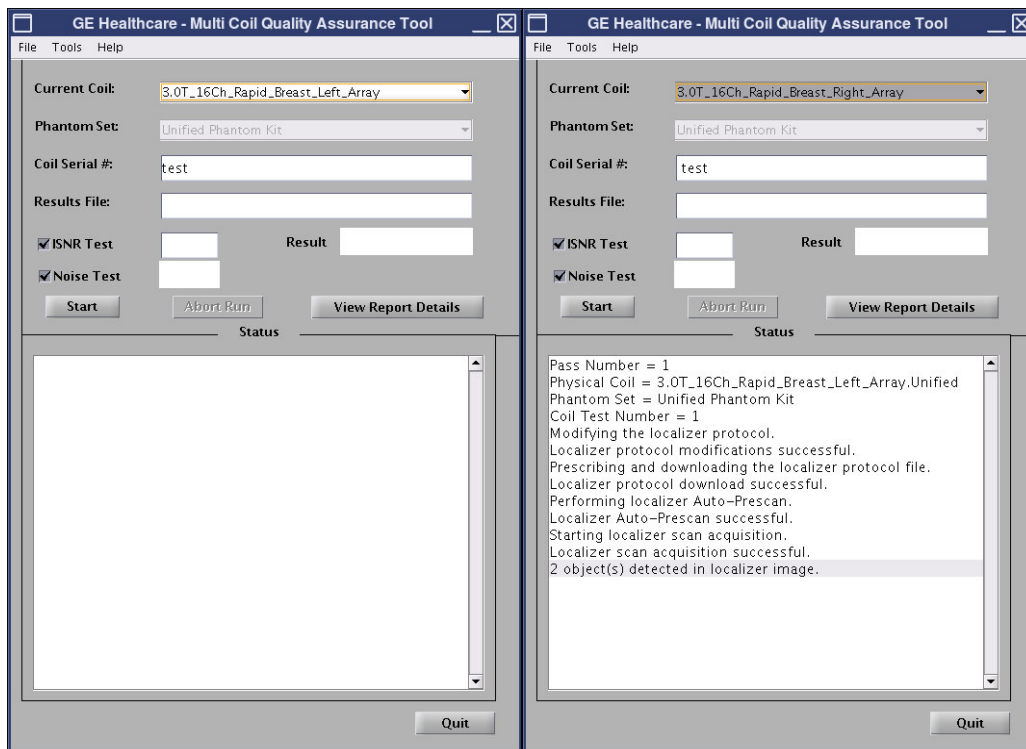

Figure 4: Selection of Current Coil for tests on the left or the right cavity of the coil.
The field “current coil” will be automatically filled in (Figure 4) with the coil name, based on the CoilID of the coil connected to the LPCA. Choose entry ending as “Left_Array” or “Right_Array” for the test with the phantom placed inside the left or the right cavity of the coil. Enter the serial number of the coil being tested in the field “Coil Serial #”.
- 2) Click **[Start]** to begin the automated test as shown in Figure 4. The test may take from 3-5 minutes depending on the MR system.